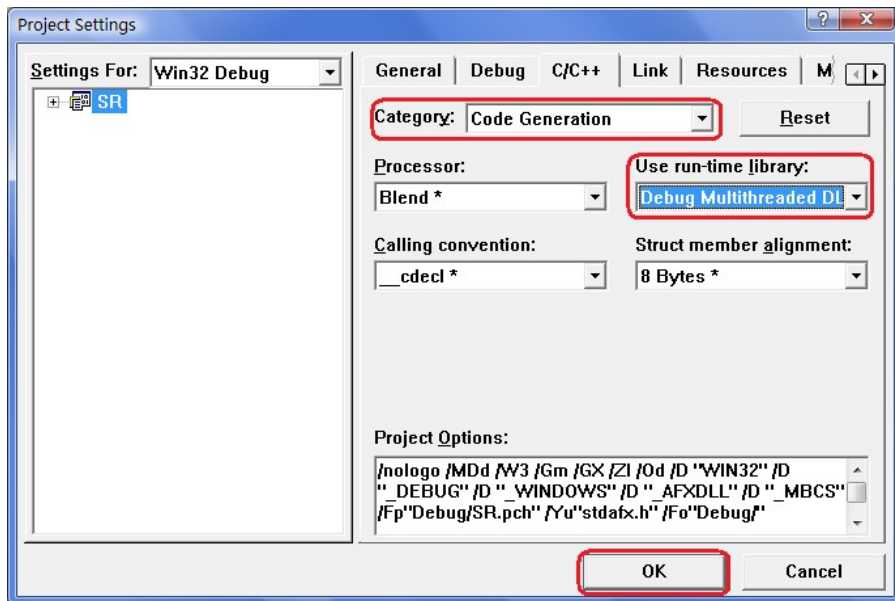

Figure 4-1-1
2. Choose Project → Settings → C/C++; select “Code Generation” in Category and “Debug Multithreaded DLL” in Use run-time library; click OK; as is shown in figure 4-1-1.